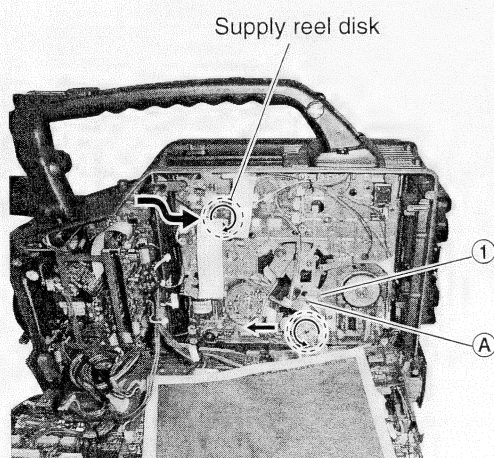

Fig. 1-7 How to take a cassette out manually
- (4) Turning the timing belt in the direction shown in the Fig. 1-7 allows performing of the unloading and eject functions. Any tape slack occurring with this procedure should be wound by inserting a finger from the direction shown with an arrow in the diagram in order to turn the supply reel disk.